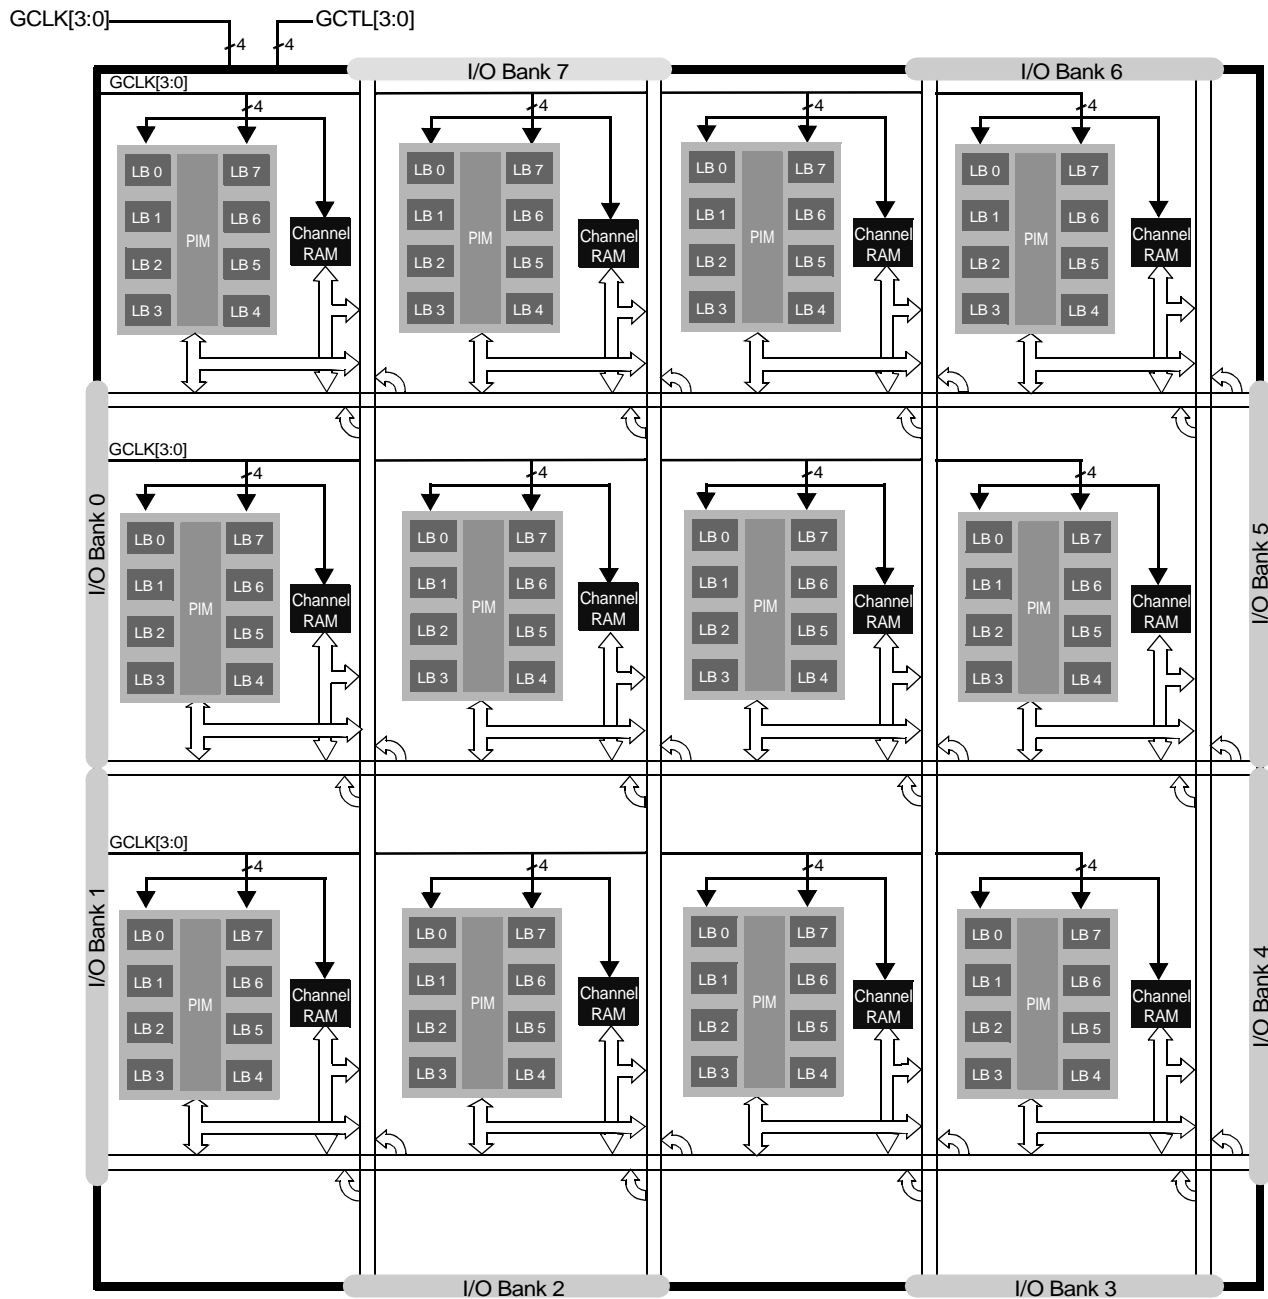

Figure 1. Quantum38K100 Block Diagram (3 Rows x 4 Columns) with I/O Bank Structure
The architecture is based on Logic Block Clusters (LBC) that are connected by Horizontal and Vertical (H&V) routing channels. Each LBC features eight individual Logic Blocks (LB). Adjacent to each LBC is a channel memory block, which can be accessed directly from the I/O pins. These channel memory blocks are highly configurable and can be cascaded in width and depth. See *Figure 1* for a block diagram of the Quantum38K architecture.